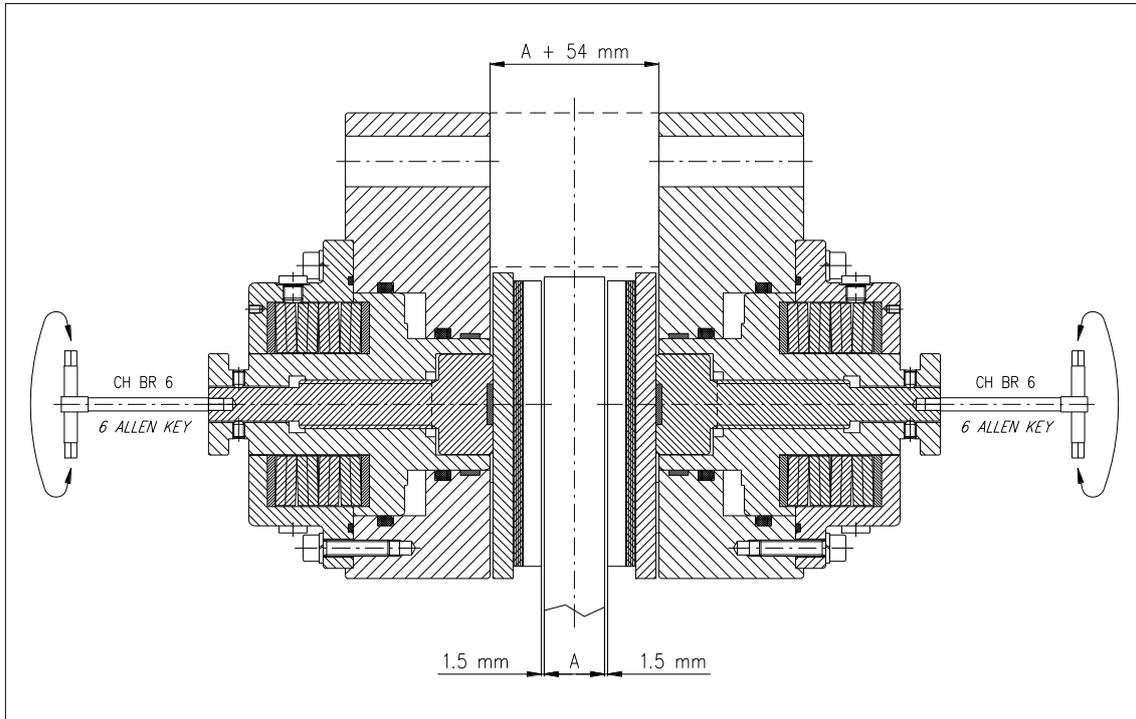

Figure 3 – Initial play adjustment
- With the brake powered up rotate the play adjuster (D71288) in the clockwise direction using a CH BR 6 (Photo 7), until a play of 1.5 mm (Photo 8) is obtained between the disc and each brake lining (Figure 3).